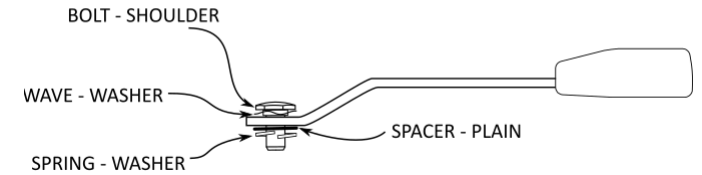

Figure 3.2 Stem buckle bolt assembly
- Figure 3.2 shows a stem buckle and its bolt assembly.